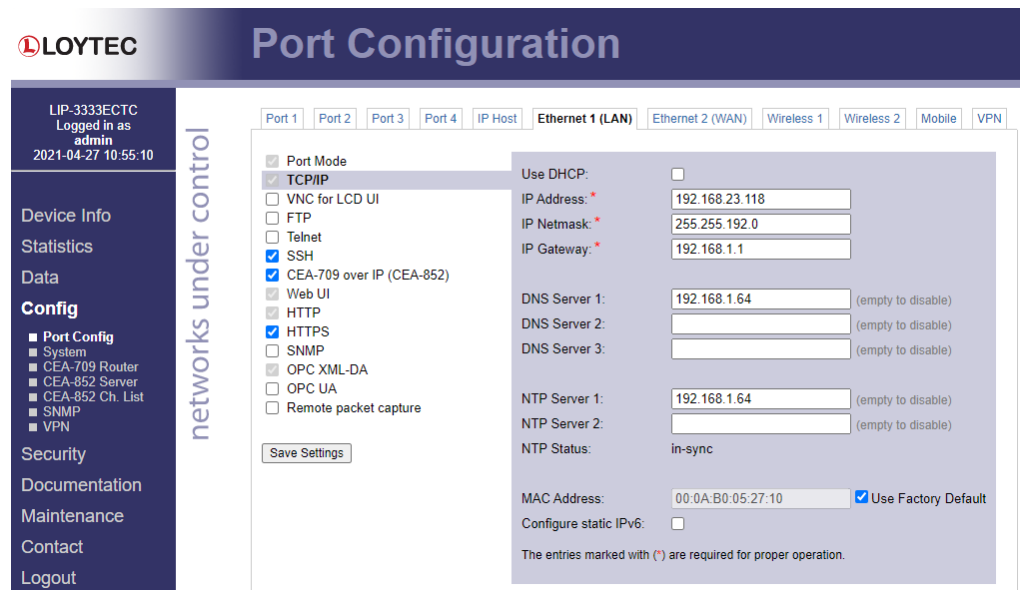

Figure 22: Enter IP address and gateway.
- The Config menu opens. Click on **Port Config** and change to the tab **Ethernet**. The TCP/IP settings are selected as shown in Figure 22. Enter the IP address, the IP netmask, and IP gateway for this device.